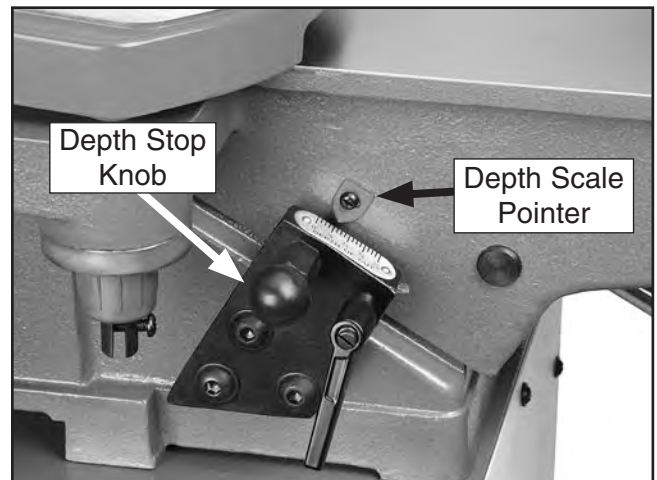

Figure 70. Depth scale and depth stop knob.
5. Using a screwdriver, adjust the scale pointer exactly to "0", as shown in **Figure 70**.
A depth stop knob (see **Figure 70**) on the depth scale assembly allows the operator to set the maximum depth of cut to $\frac{1}{8}$ ".